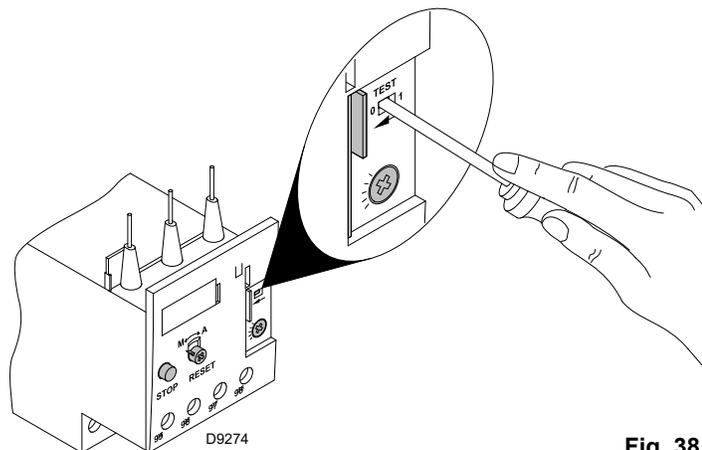

Fig. 38
- To test the thermal relay, insert a screwdriver in the window "TEST" (Fig. 38) and move it in the sense of the arrow (towards right).